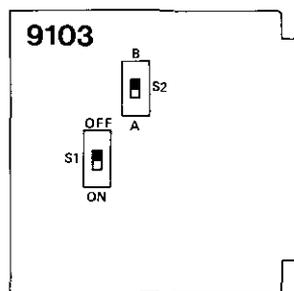

figure 2. Switch locations
3.04 The 9103 contains only two option switches. Their locations are shown in figure 2. Switch S1, when set to the ON position, connects resistance battery to the sleeve leads for use in central offices (such as Leich) where this is required. The OFF position is selected for all other central office types. Switch S2 adapts the 9103 for use with ring generator on either the tip (+) or ring (-) side of the business line. Position A options the module for ring-connected generator; position B options the module for tip-connected generator.